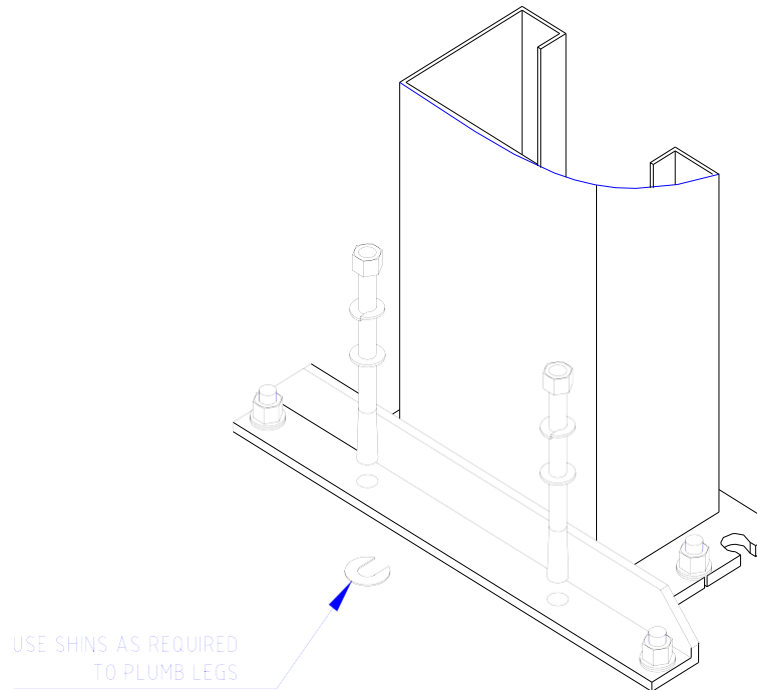

Figure 9
- F. Using a level, plumb the main side leg both side to side and front to back. Shim the leg as necessary next to and on both sides of the anchor bolts, figure 9. If more than **1/2" of****